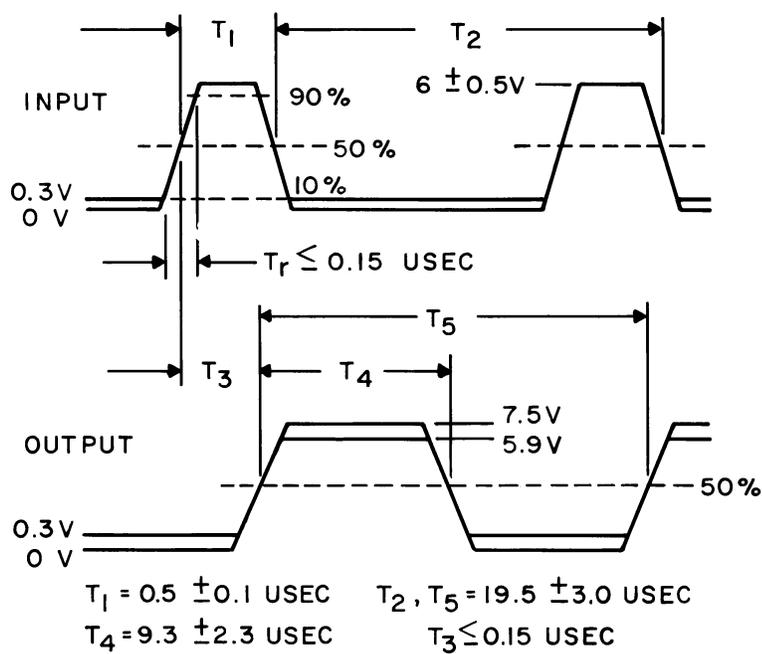

Fig. 30 - (Monopulser Card Test)
- (1) Consult Table D to determine which monopulser and corresponding input resistor are under test.
- (2) Set the NORMAL-DEGRADED selector to NORMAL.
- (3) Adjust potentiometer P1 until the voltage between J1 and ground measures $+6.0 \pm 0.2$ volts dc with the voltmeter.
- (4) The input test pulse on J8 should be as specified in Fig. 30.
- (5) Rotate the INPUT selector through positions 1 to 6. The output pulse on J3 should be as specified in Fig. 30 at each position.
- (6) With the TEST FUNCTION selector in position 2, repeat as in (5).